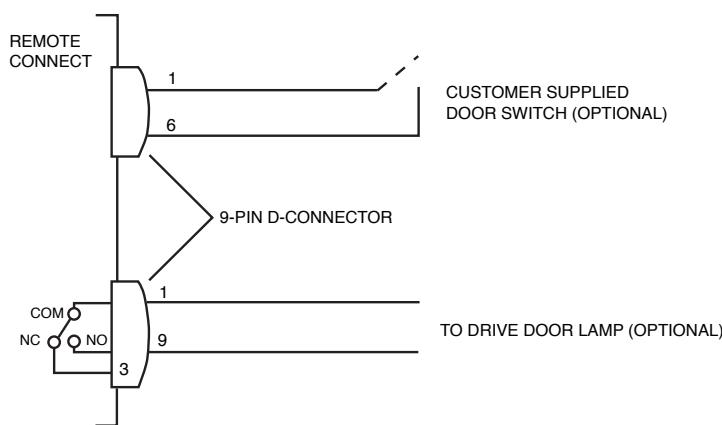

Figure 1-7 Remote Connector/Door Lamp Circuit Diagram
- The remote interlock connector should be connected to an emergency master disconnect interlock or to room/door/fixture interlocks. Please refer to figure 1-7.